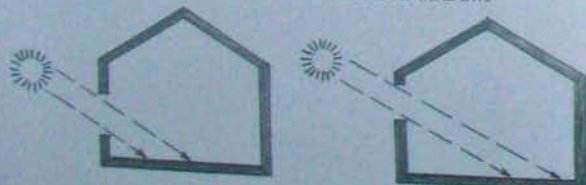

Figure 4
- High windows throw light deeper into a space than lower windows (see figure 4).